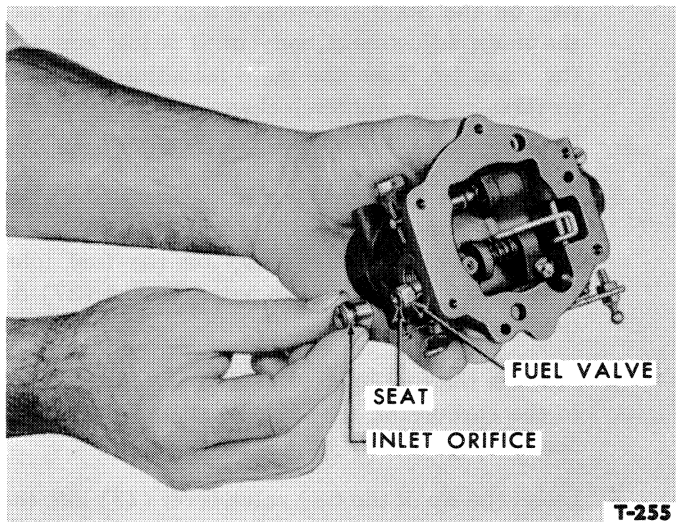

Figure 7—Removing Inlet Orifice
8. Remove the fuel valve axle retainer (9), fiber washers (8), axle (7) and fuel valve lever (13).
9. Loosen the inlet orifice set screw (22), Figure 6, with an Allen wrench. Remove the inlet orifice, Figure 7, from the carburetor with a wide screwdriver. Remove the inlet valve (39) and spring (40), Figure 6.